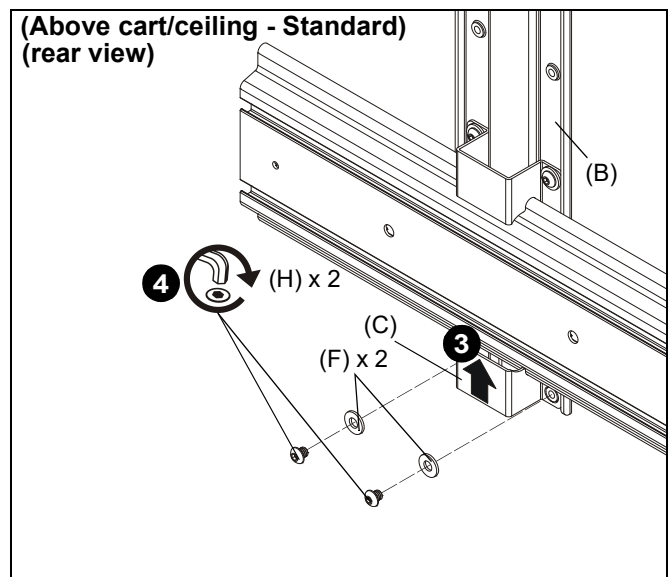

Figure 17
- Slide second shelf bracket (C) underneath head assembly, lining up holes on shelf bracket (C) to holes on main bracket (B). (See Figure 17)
- Use two 1/4-20 x 1/4" button head cap screws (H) and two large washers (F) to secure shelf bracket (C) to main bracket (B). (See Figure 17)